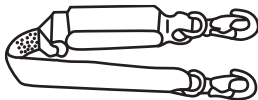

Figure 7. Shock-absorbing Lanyard
1. Connectors including a shock-absorbing lanyard as shown in Figure 7.